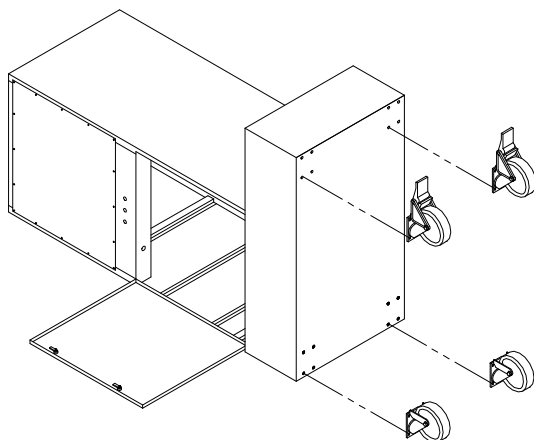

FIG. 1
4. With the unit still in the horizontal position, secure the casters to the bottom of the unit. (See FIG. 1)